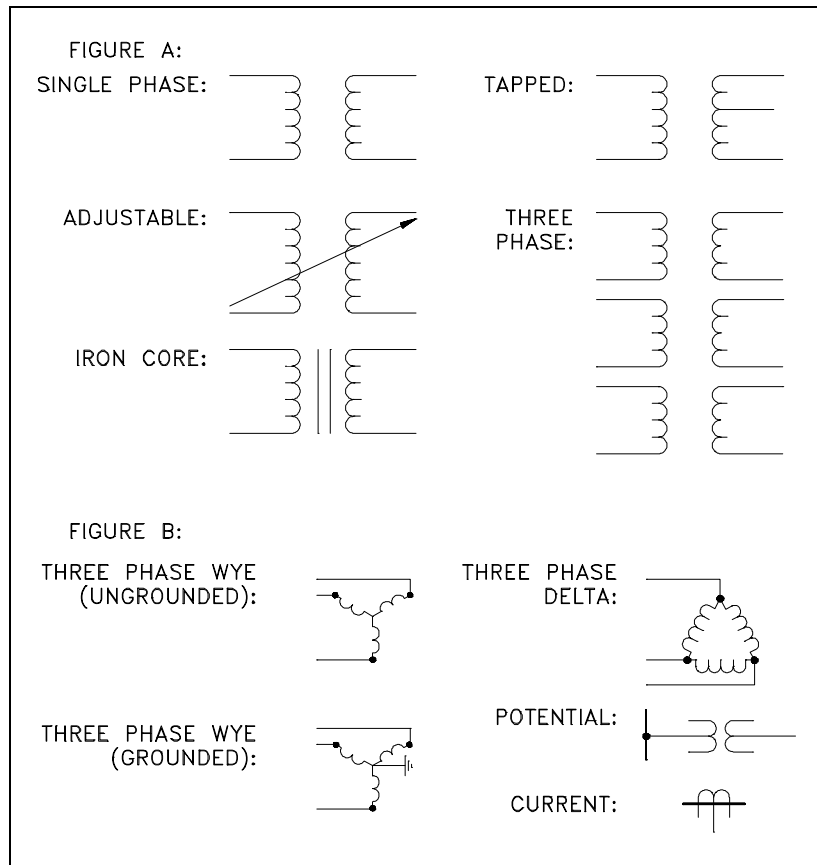

Figure 1 Basic Transformer Symbols
The basic symbols for the various types of transformers are shown in Figure 1 (A). Figure 1 (B) shows how the basic symbol for the transformer is modified to represent specific types and transformer applications.